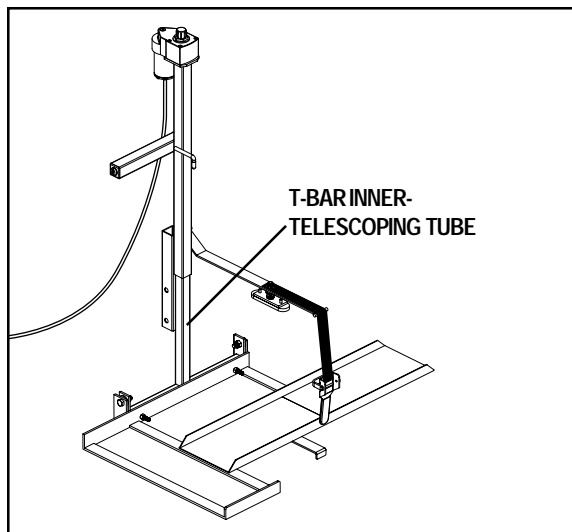

Figure 10. Lift Frame Maintenance
- Lower the platform to the ground, clean away any remnants of old grease from the T-bar inner-telescoping tube, and apply a new coat of all-weather lithium grease to the inner-telescoping tube. See figure 10